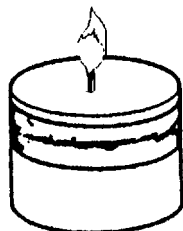

**Figure 2-41. Sleeping Bag**
- s. **Sleeping Bag.** The sleeping bag (See Figure 2-41) comes compressed and vacuum packed. After removing the sleeping bag from its packaging, shake and fluff the bag. Increased fluffing provides greater warmth. Keep the sleeping bag clean and dry. After use, turn the bag inside out to allow condensation to dry out.